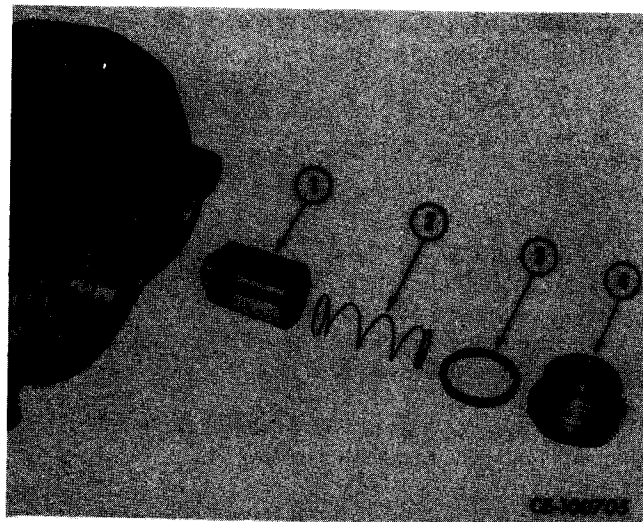

Figure 11-48
Remove plug (4, Fig. 11-48) spring (2) and check (1) from valve body. Discard seal ring (3) from plug.
Lubricate check (1, Fig. 11-48) and new seal ring (3) with clean hydraulic oil. Insert check (1) and spring (2) into valve bore. Seat plug (4) over spring and thread plug into valve bore. Tighten plug securely.